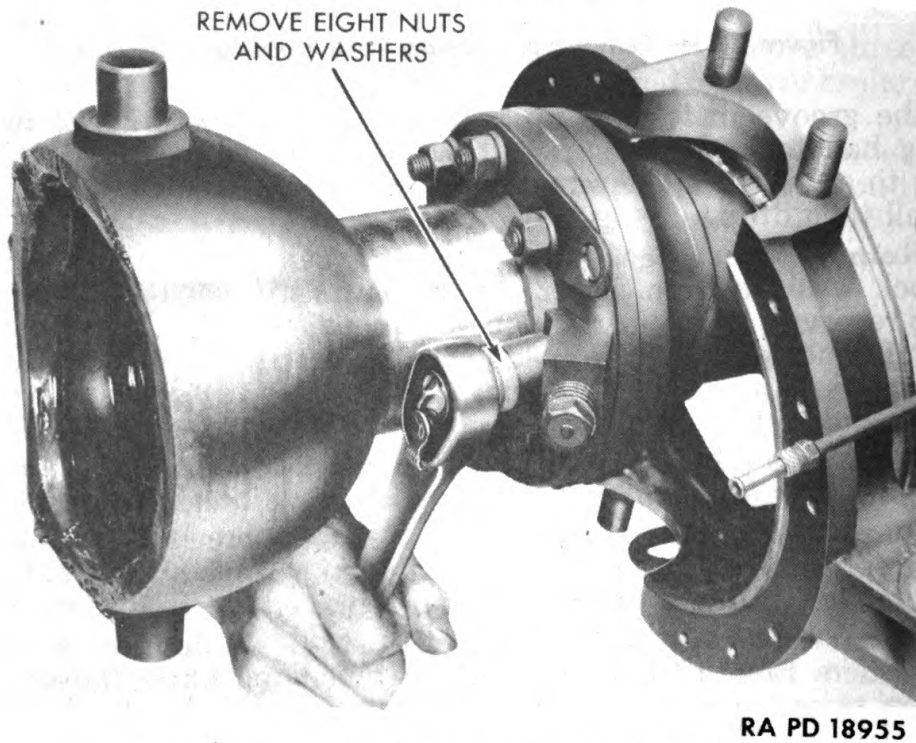

Figure 37 — Removing Trunnion Yoke to Axle Housing Nuts
m. Remove Trunnion Yoke from Housing. Remove eight nuts and lock washers from studs holding trunnion yoke to axle housing (fig. 37). Screw two cap screws into threaded holes in trunnion yoke to force yoke from housing. Remove yoke (fig. 38). Lift inner half of trunnion yoke housing from axle.